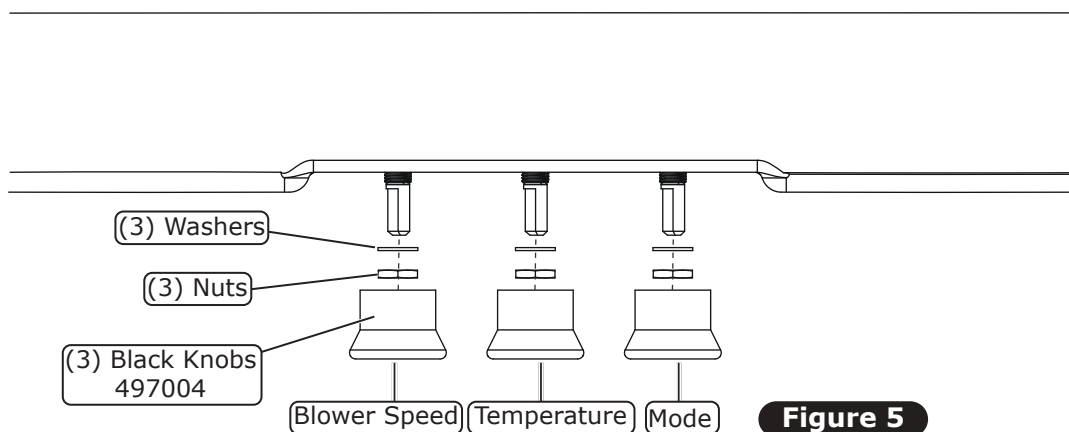

Figure 5
3. From the front of the under dash louver assembly, secure the rotary assemblies with the provided washer and nut (See Figure 5, below).
4. Install the black knobs onto the rotary assemblies as shown in Figure 5, below.